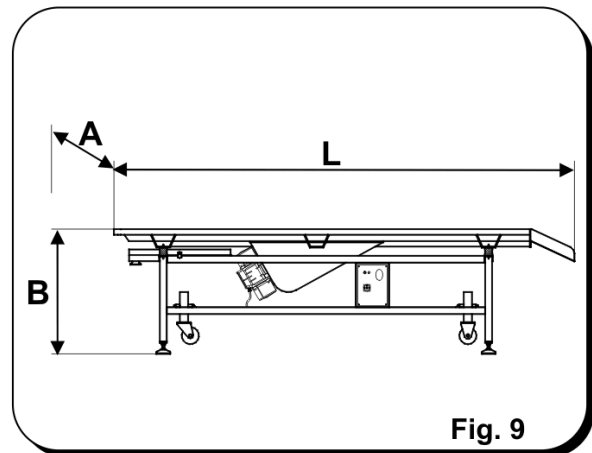

Fig. 9
3.4 TECHNICAL FEATURES (FIG. 9)